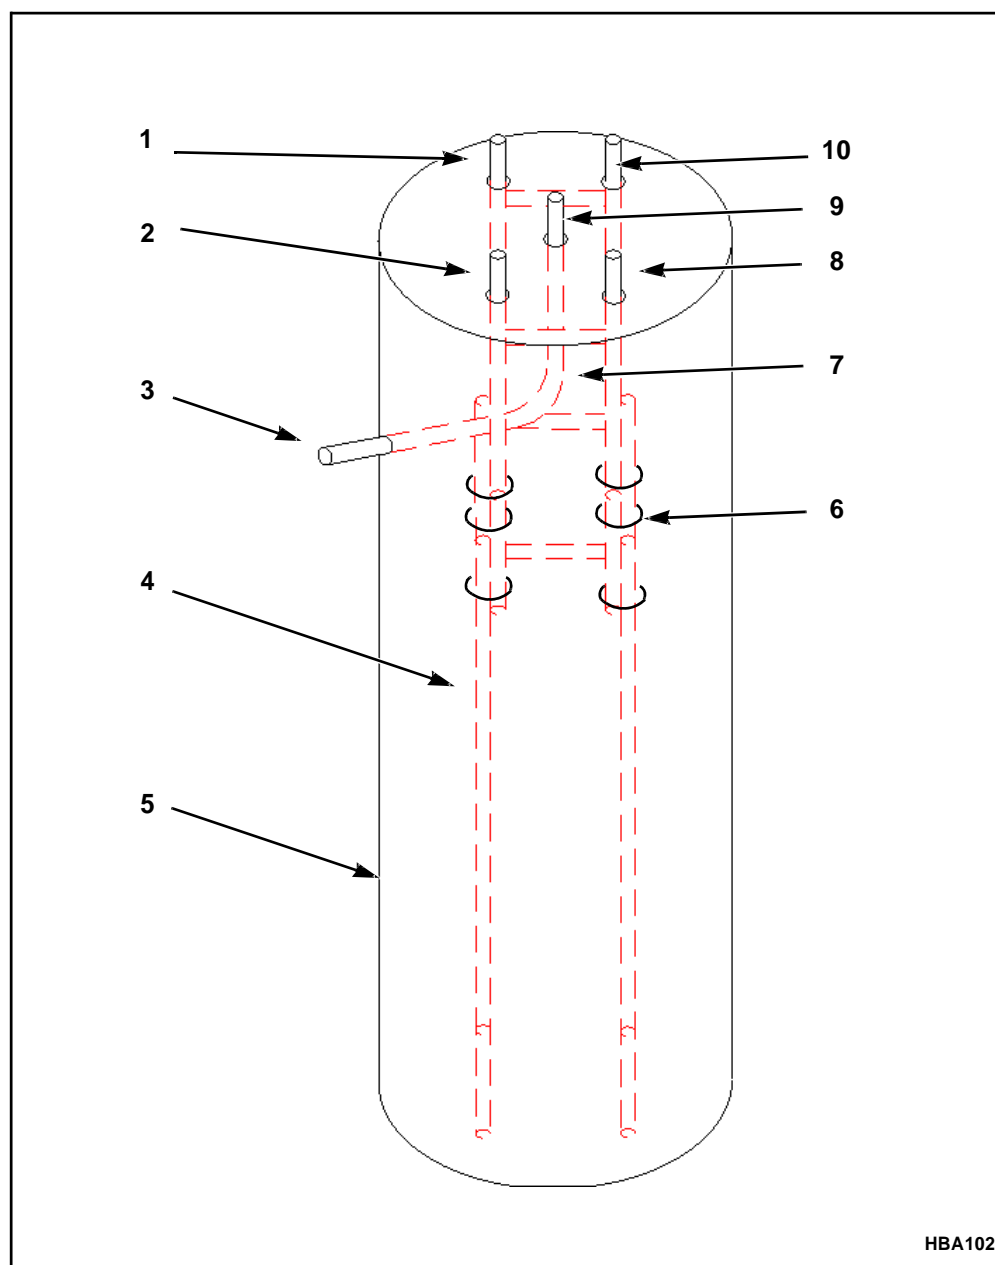

Figure 7. L-807 Anchor Assembly
4. Use wire to tie each 5 ft piece of rebar to each of the four corner posts, see Item #6 in Figure 7 on page 21.
8. Place a 90 degree bend approximately 20" from one end of the conduit, see Item #7 in Figure 7.
9. Place this end of the conduit between the four corner posts and 18" below grade. If possible wire the conduit in place, see Figure 7 on page 21.